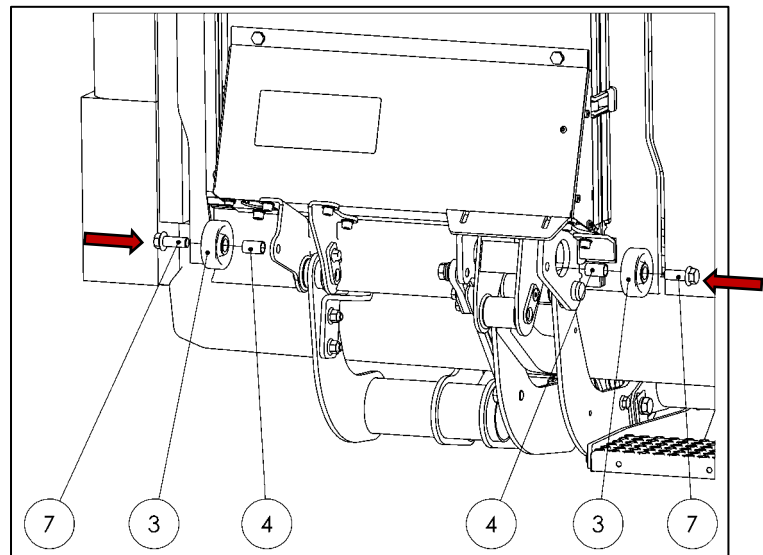

Fig. 61
- Remove the flange screws (7), bushings (4), and ground rollers (3) from the accessories kit (see Fig. 61).